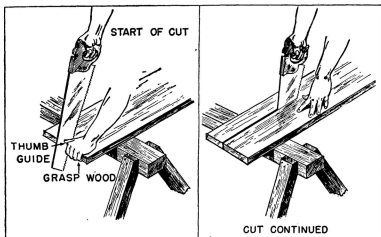

FIGURE 10.—Using the saw.
(1) *Hand saws* (fig. 9①).—There are two kinds of hand saws—crosscut and rip. A crosscut saw has knifelike teeth and is used to cut wood *across* the grain. A rip saw has chisel-like teeth and is used to cut wood *with* the grain. The hand saw is used in most common carpentry work. A saw cut should be started by guiding the blade against the thumb of the left hand and drawing the saw backward (fig. 10). Extending the forefinger along the handle aids in guiding the blade. Hold the saw lightly and do not try to push it into the wood; move it back and forth with a full, long stroke, letting it do its own cutting.